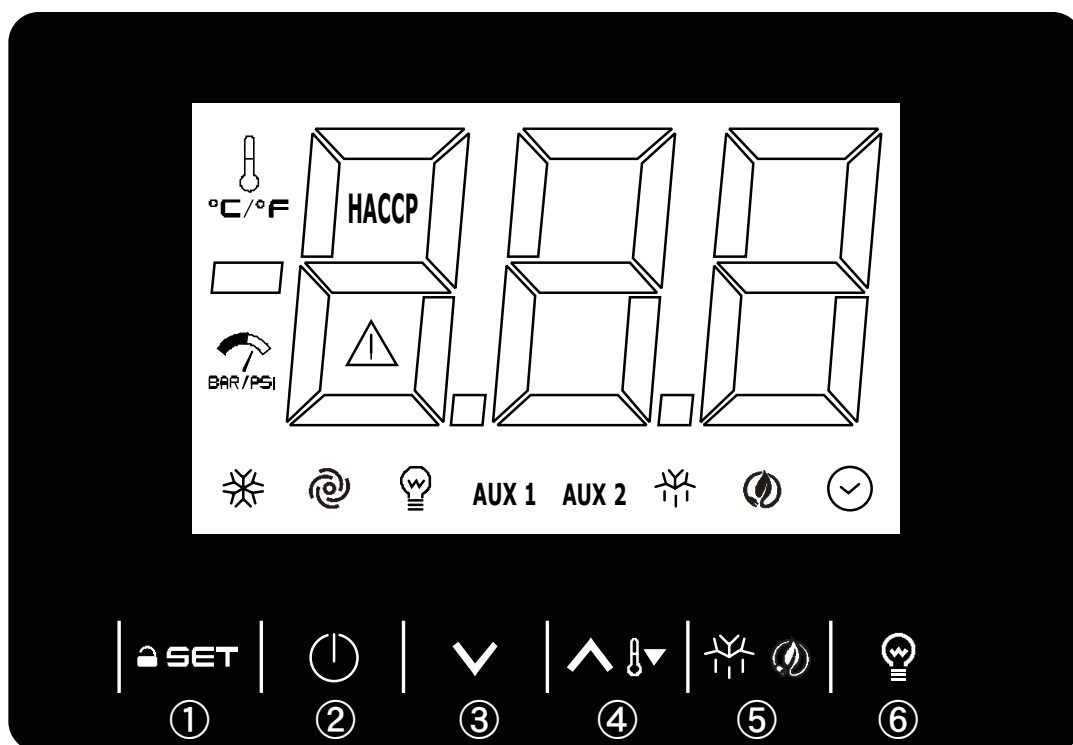

Fig.3
9.1 Description of the controls and buttons (Fig. 3)
**Start-up sequence (fig.3).**
9.2.2 Stopping methods (fig.3)
▶ press the on-off button (1) for 5 seconds	the display and the table will turn off
9.2.3 adjustment of the internal clock to the current time (fig. 3)
9.2.4 Setting the temperature (Fig. 3)
9.2.5 Automatic and manual defrost (Fig. 3)
9.2.6 Keypad lock (fig.3)
9.2.7 Turning the light on / off (fig. 3)